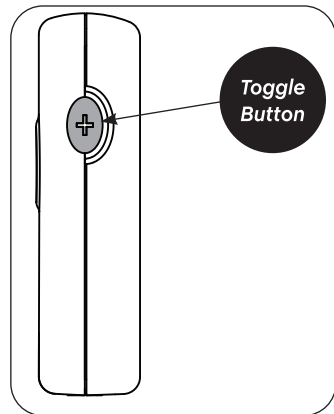

figure 11B: Select Duration
B. Press the *Toggle Button* to select 1, 2, 3 or 4 hour treatment duration (as allowed by current battery charge) (Figure 11B).